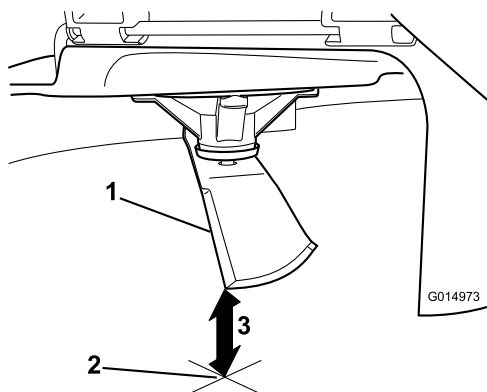

Figure 94
5. Measure from the tip of the blade to the flat surface (Figure 94).